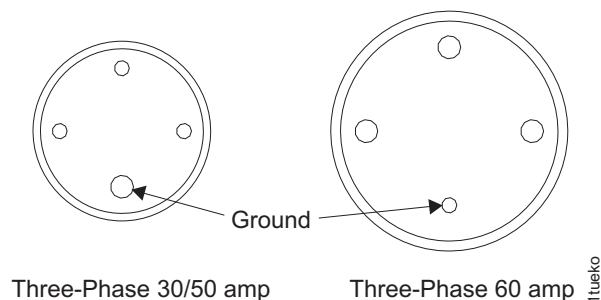

Figure 73. Three-phase amp
4. Measure the resistance between the customer AC power outlet ground pin and the building ground. Refer to Figure 73 for the location of the ground pin. Is the resistance 1.0 ohm or less?